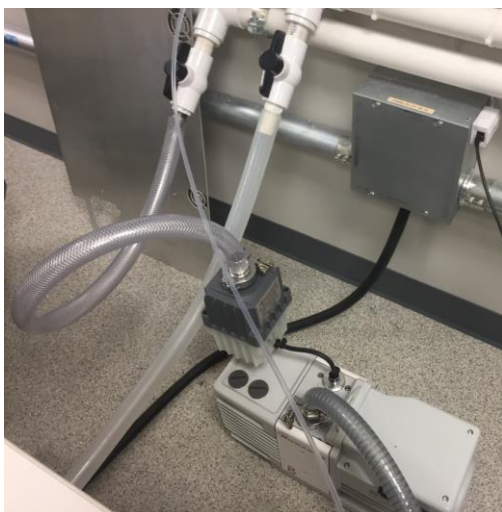

Figure 4: Foreline Pump
The external mechanical pump as shown in Figure 4 is placed near the instrument and it is quiet at only 48 dB (A).